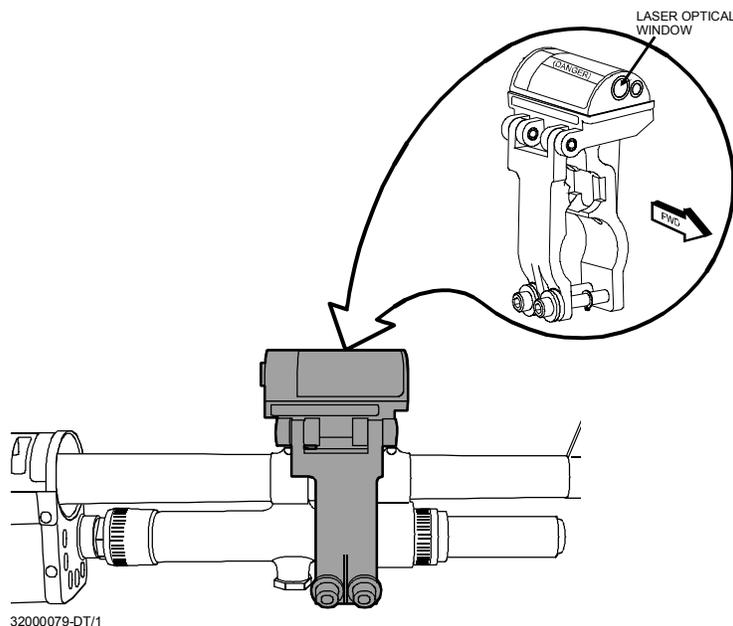

Figure 2-11. M60 SAT.
2.3.1.3.5 M60 SAT Installation. (See Figure 2-11.)